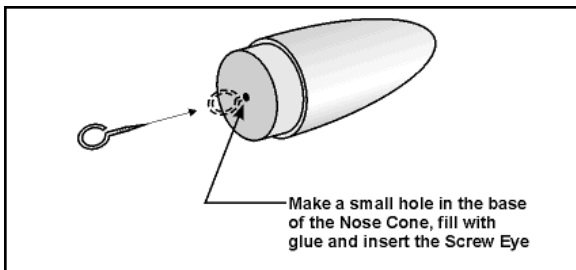

Figure 10
10. Screw the **Screw Eye** into the base of the **Nose Cone**, remove the screw eye, place a drop of glue into the hole and re-insert the screw eye, as shown in **Figure 10**.